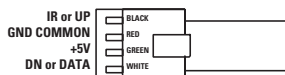

FIGURE 8
2. Locate small dipswitches on back of wall switch. See Figure 5 for 120V screens or Figure 8 for 220/240V screens.